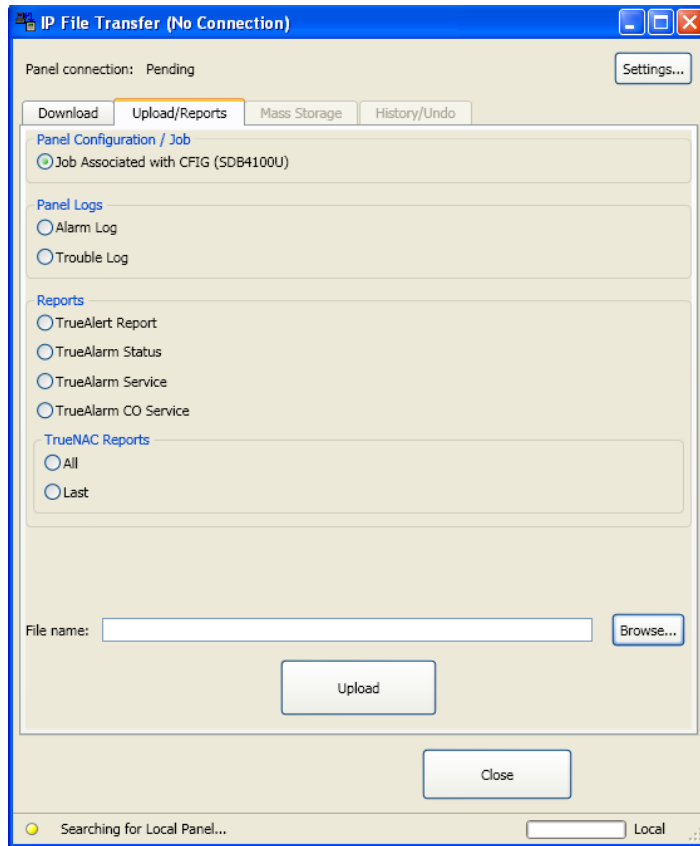

Figure 16-7.Upload/Reports Tab
1. Click on the Upload/Reports tab near the top of the IP File Transfer window. See Figure 16-7.